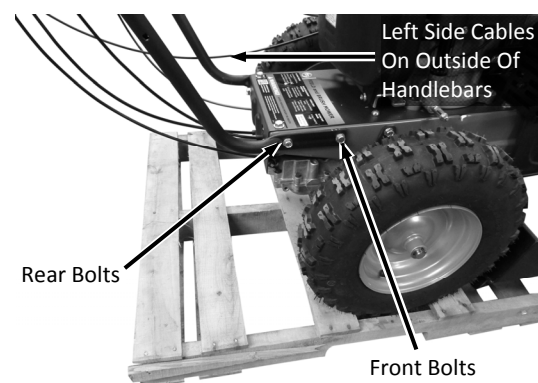

Figure 4
1. With the Handlebars resting on the ground, Align the front holes of the Handlebars to the front holes in the Frame (Figure 4).